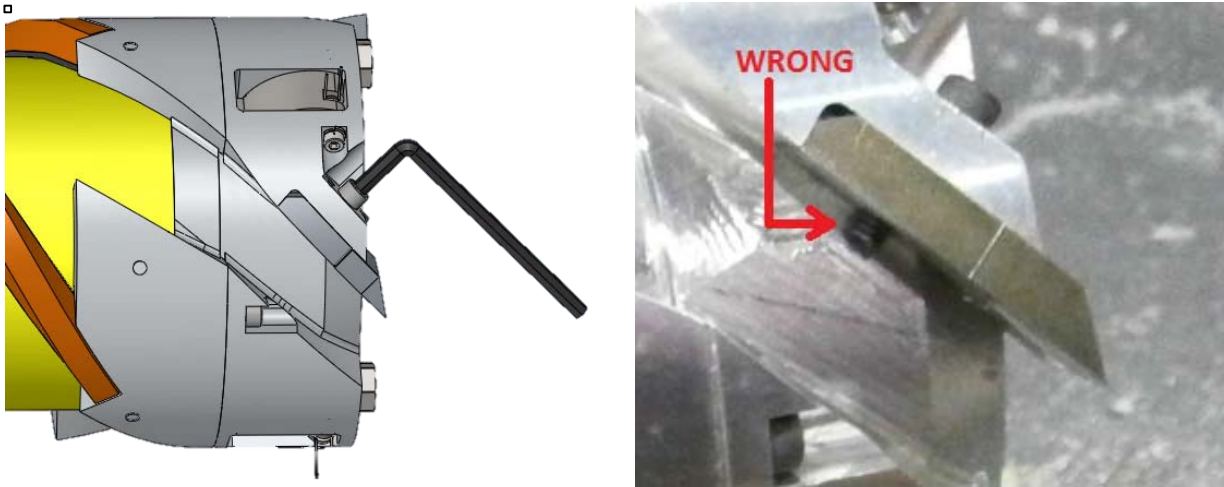

Figure 5: Cutter Installation and Removal
7.1.1.1 Using the 5/64-inch Allen wrench, remove the 8-32 socket head cap screw (Figure 5).
7.1.2.2 Install the socket head 8-32 cap screws and tighten them with the 5/64-inch Allen wrench. Use the ½" long screws (shorter of included lengths) so that the end of the screw is nearly flush with the cutter (Figure 5).